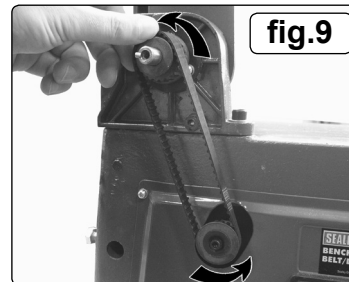
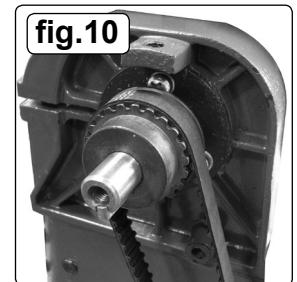

fig.9
fig.10
- 6.7.6. Fit the new belt over the lower motor spindle pulley and over the top pulley as in fig.9. To help engage the belt pulley with the top pulley teeth, rotate the motor spindle anti-clockwise while applying horizontal pressure to the belt at the top pulley (fig.9). Ensure the belt is correctly located on both pulleys. Fig.10 shows the belt in the correct location on the upper pulley.